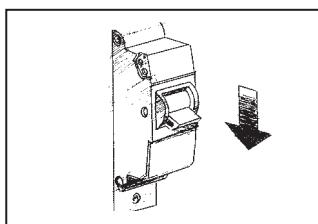
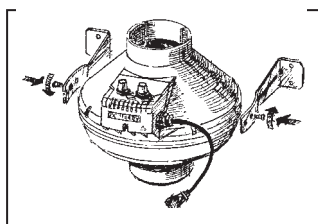

Fig. 8
Fig. 9
1. Cut off power supply, fig. 8.
2. Remove the bolts (5) from the casing (1) and install the mounting brackets (4) in such a way so that the holes on the mounting brackets are aligned with the heads of the screws (6).
3. Fix the mounting brackets on the casing with the bolts, fig. 9.